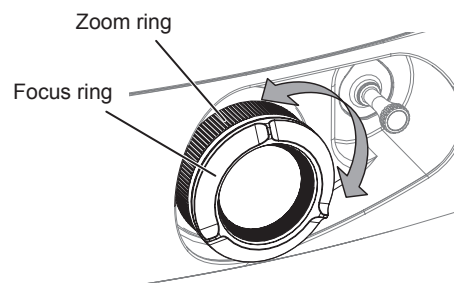

Fig. 2
5) Adjust the zoom and focus. (Fig. 2)